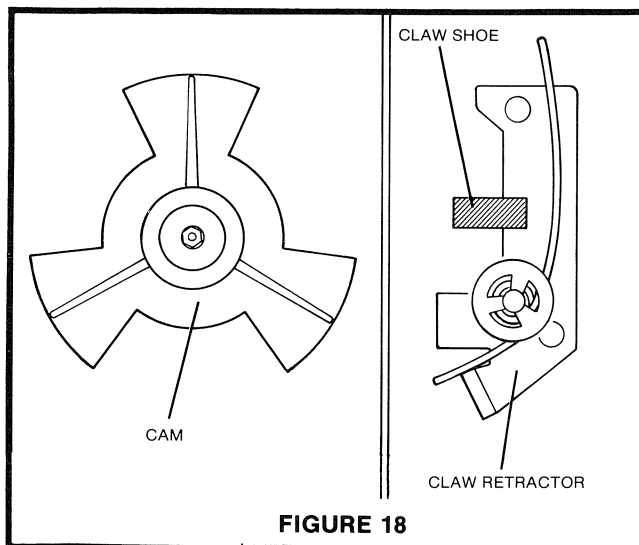

FIGURE 18
3. Rotate cam until CLAW SHOE is centered on CLAW RETRACTOR and CAM is in position shown, Figure 18.